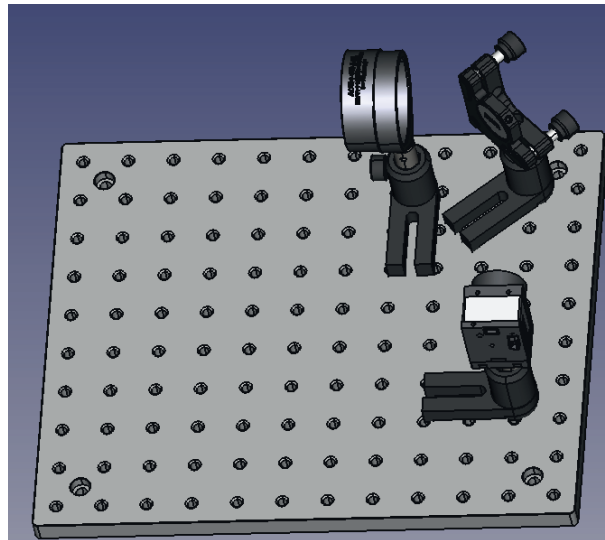

FIGURE 1 – Setting up the detection.
Step 1 : First, attach the CMOS camera on an optical post and insert it inside a post holder. Install the kinematic mirror mount in the top right corner of the optical breadboard (see Fig. 1). Adjust the height of the elements at 8 cm (for the center). Place the post of the camera 15 cm away of the kinematic mirror mount. Then place the 2 inch lenses on a post holder at roughly 5 cm from the kinematic mirror. Observe a scene far away (ideally at infinity) and adjust the position of the lens in order to obtain a sharp image on the camera using the manufacturer software. Usually, we observe a scene farther than 100 m through a window of the office or the lab.